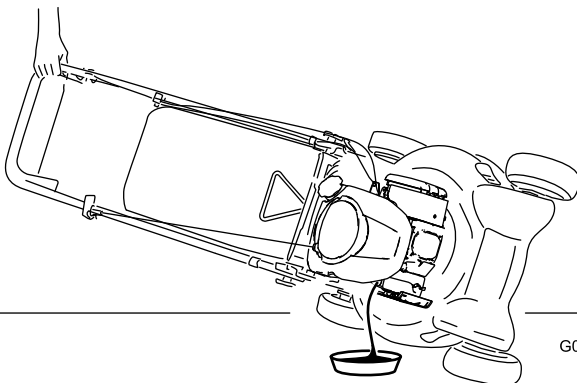

Figure 21
5. Remove the dipstick and drain the used oil into an oil-drain pan (Figure 21).